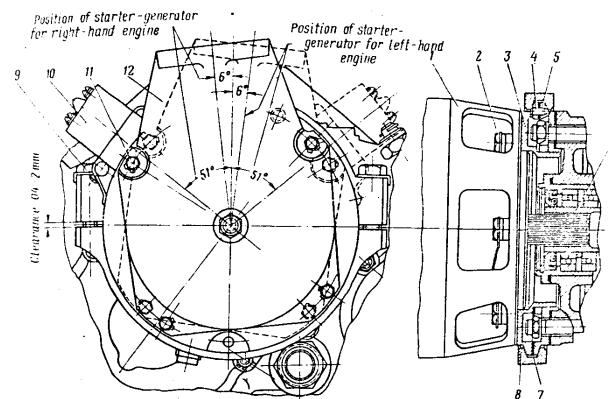

Fig.26. Attachment of Starter-Generator TCP-CT-6000A
Starter-generator ICP-CT-6000A should be replaced as follows (Fig.26):
8. Install the starter-generator air scoop in the required position, depending on arrangement of the engine on the aircraft (See Fig.26).